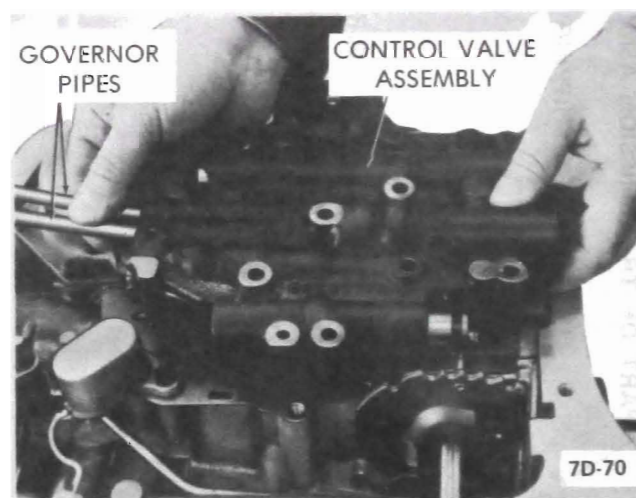

Figure 7D-30
5. Remove governor screen assembly from governor feed pipe in case or from end of governor feed pipe. See Figure 7D-31. Clean screen in clean solvent and air dry.